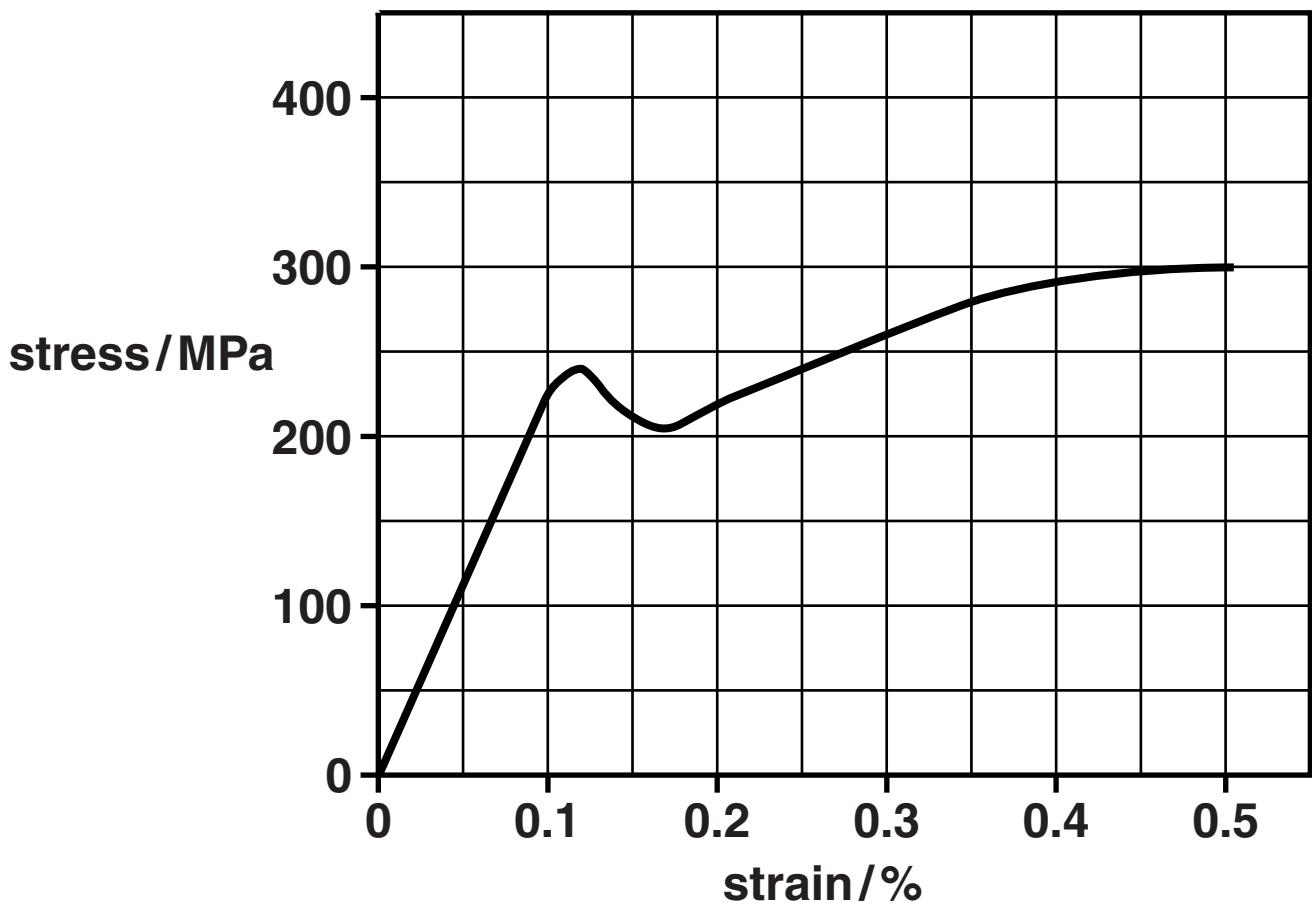

FIG. 3.1
- 3 Fig. 3.1 shows part of the stress against strain graph for mild steel.